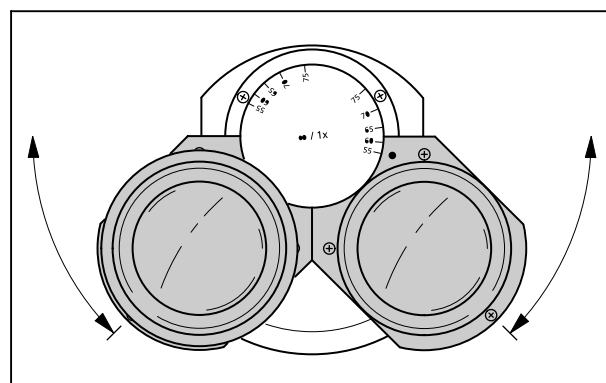

Fig. 2-5 Setting the interpupillary distance of the binocular tube
| Fig. 2-5 | Setting the interpupillary distance of the binocular tube..... | 2-7 |
- The eyepiece distance is coordinated with your individual interpupillary distance by swinging the eyepiece tubes symmetrically toward one another (Fig. 2-5).